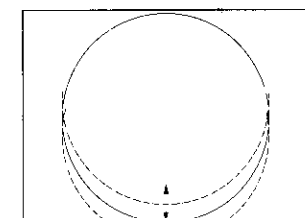

fig. 7
- Adjust the vertical size to obtain a simetrical picture up-down (fig. 7).